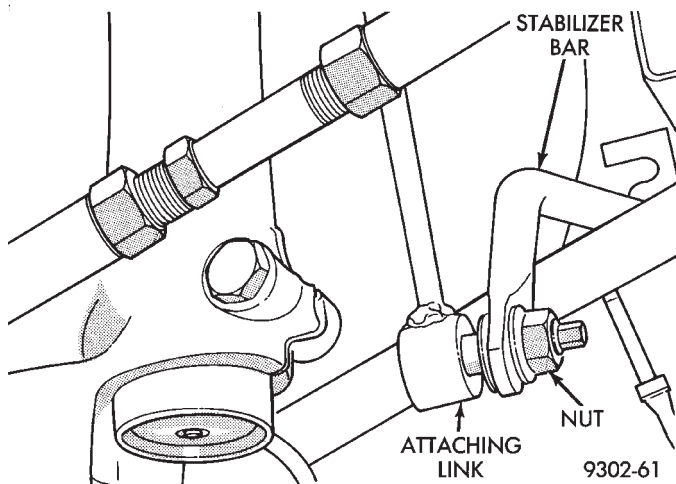

Fig. 12 Attachment Link To Stabilizer Bar Attaching
(4) Install the stabilizer bar attaching link onto stabilizer bar. Install the stabilizer link to stabilizer bar attaching nut (Fig. 12). While holding stabilizer link stud at hex, torque the stabilizer link to stabilizer bar attaching nut to 95 N•m (70 ft. lbs.).